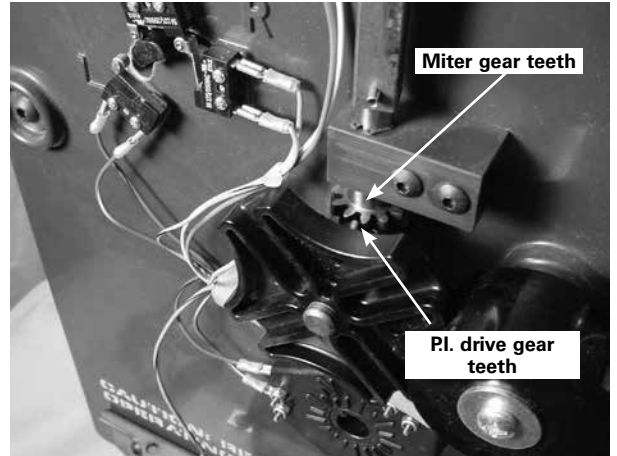

Figure 4. Gear teeth
3. Slide the new PI drive gear onto the shaft matching up the gear teeth of the PI drive gear with the teeth of the miter gear. See Figure 4.